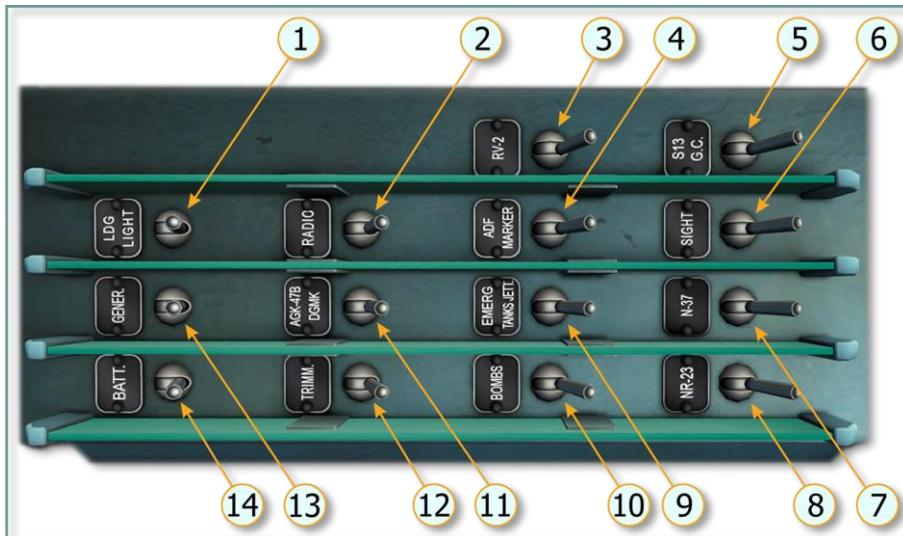

Figure 4.13. Right electrical distribution panel
(14) *RIGHT ELECTRICAL DISTRIBUTION PANEL.* This panel (Figure 4.13) is used to turn the following items on and off: lights, electrical units, radio electronic equipment, trimmers, gyrocompass, attitude indicator and armament system objects.